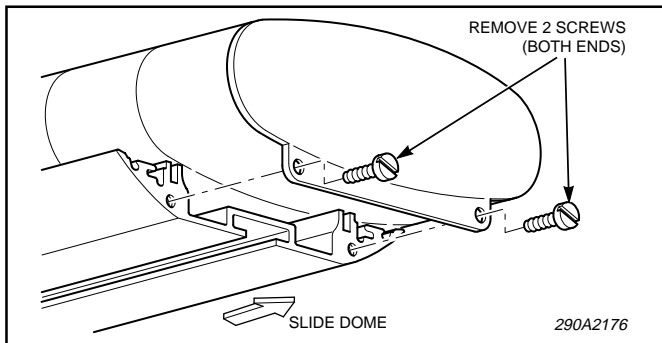

Figure 5.
1. Dome Removal (see figure 5).